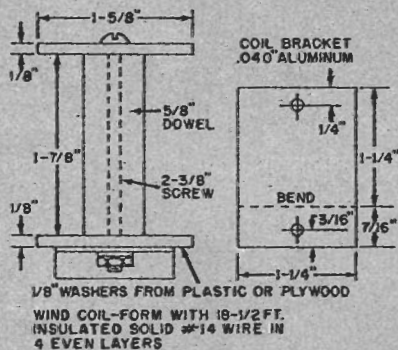

Fig. 4. Construction data for L1. Plastic tape can be wound over coil to keep it from unravelling during mounting.
Construct inductor *L1* in accordance with Fig. 4. Using the photos as a guide, assemble all components in the cabinet and wire in accordance with Fig. 1. Note that the two "hot" lamp clips are connected automatically to their respective
*L1*—see text and Fig. 4